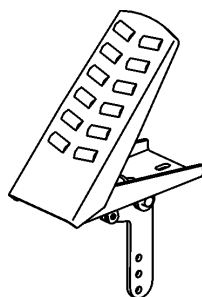

Figure 17. Blade Speed Control Foot Pedal
1. The foot pedal (Figure 17) solely controls blade speed. The position of the foot pedal determines the blade speed. Slow blade speed is obtained by slightly depressing the pedal. Maximum blade speed is obtained by fully depressing the pedal.